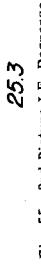

Fig. 53 2nd Picture I.F. Response
- The PHASE adjustment is used to position the picture on the raster. In order to check this adjustment the horizontal size of the picture must be reduced to view the sides (See Fig. 53). Proper adjustment is indicated when the HORIZONTAL HOLD CONTROL is in its electrical center position (See Step 4) and equal blanking exists on both sides of the picture.
CONTRAST and **BRIGHTNESS** controls counter-clockwise. Advance the **BRIGHTNESS** control until the left and right sides of the picture are clearly distinguishable from the raster (See Fig. 53). The **HORIZONTAL PHASE** control should now be adjusted until the picture is centered on the raster, with approximately 3/8" blanking on either side. Whenever a change in the **HORIZONTAL PHASE** adjustment is made, a corresponding check and possible readjustment must also be made (Step 3).